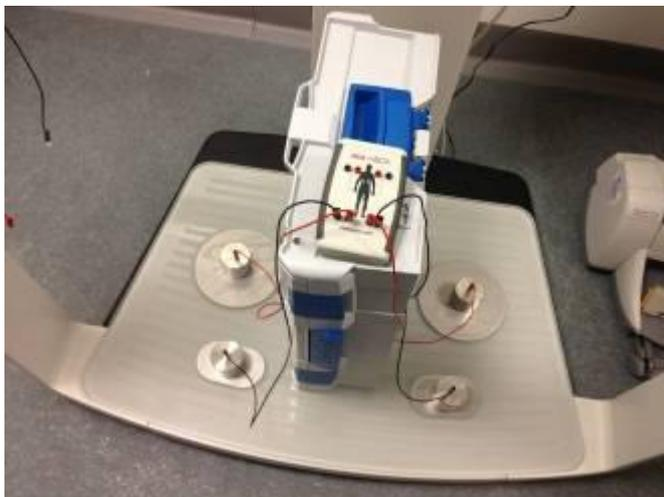

Figure 5.
- f. Take two red leads from the "foot leads" bag and connect one to each of the cylindrical weights on the ball of the foot electrodes (figure 5).
- g. Take two black from the “foot leads” bag and connect one to each of the cylindrical weights on the heel of the foot electrodes (figure 5).
- h. Place the Reference Unit on top of the case and connect the other end of the two red and two black leads plugged into the weights, into the corresponding coloured positions at the person’s foot-end of the image on the Reference Unit (figure 5).